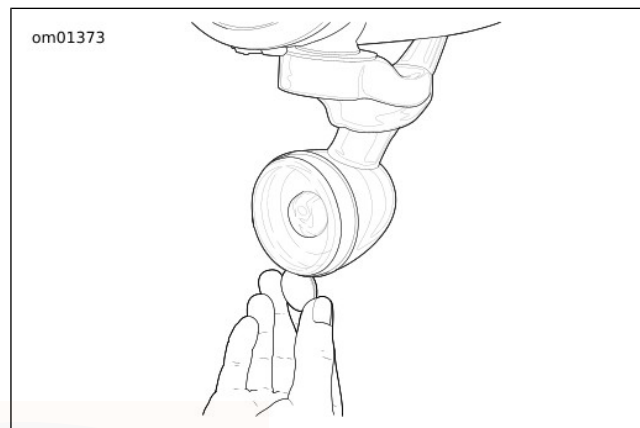

Figure 65. Lens Cap Notch
1. See Figure 65. Insert a coin or the blade of a small screwdriver into the notch at the bottom of the lens cap. Carefully twist until the lens cap pops out of the lamp housing.